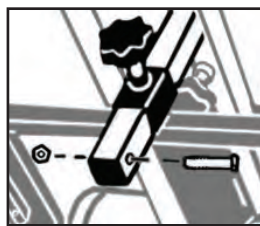

Figure 7B
- Slide the Arm Rest Frame (M1-1039) onto the shaft of the Arm Rest Adjustment Frame and secure. Reinsert and tighten the Threaded Bolt and Nut. (See Figure 7B)